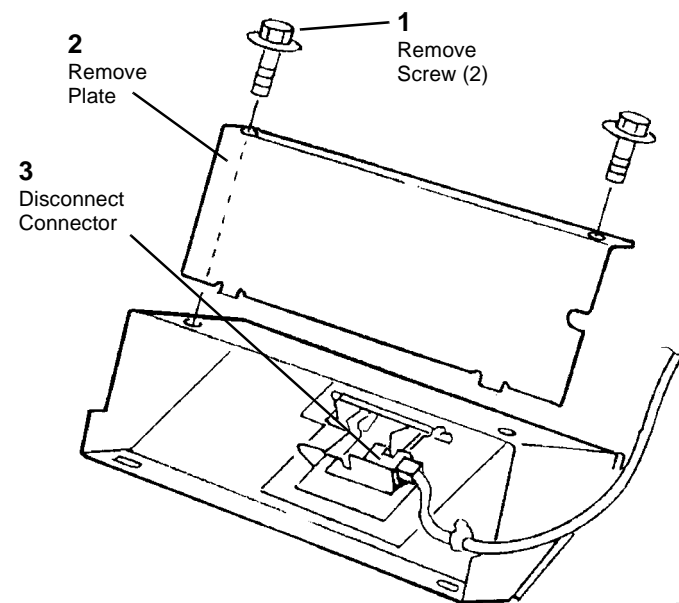

Figure 2 Disconnecting Connector
3. Disconnect Connector (Figure 2).